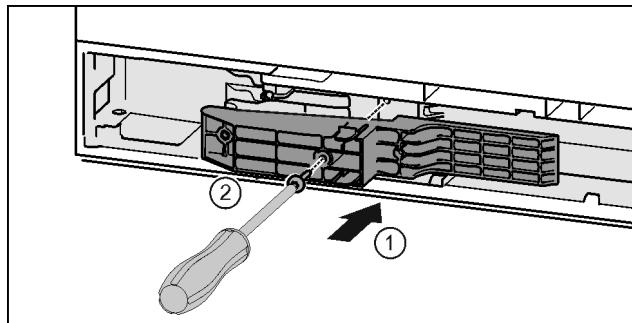

Fig. 45 *
- ▶ 将把手侧的适配件插入凹槽。Fig. 45 (1)*
- ▶ 用 T15 螺丝刀拧紧螺钉。Fig. 45 (2)*